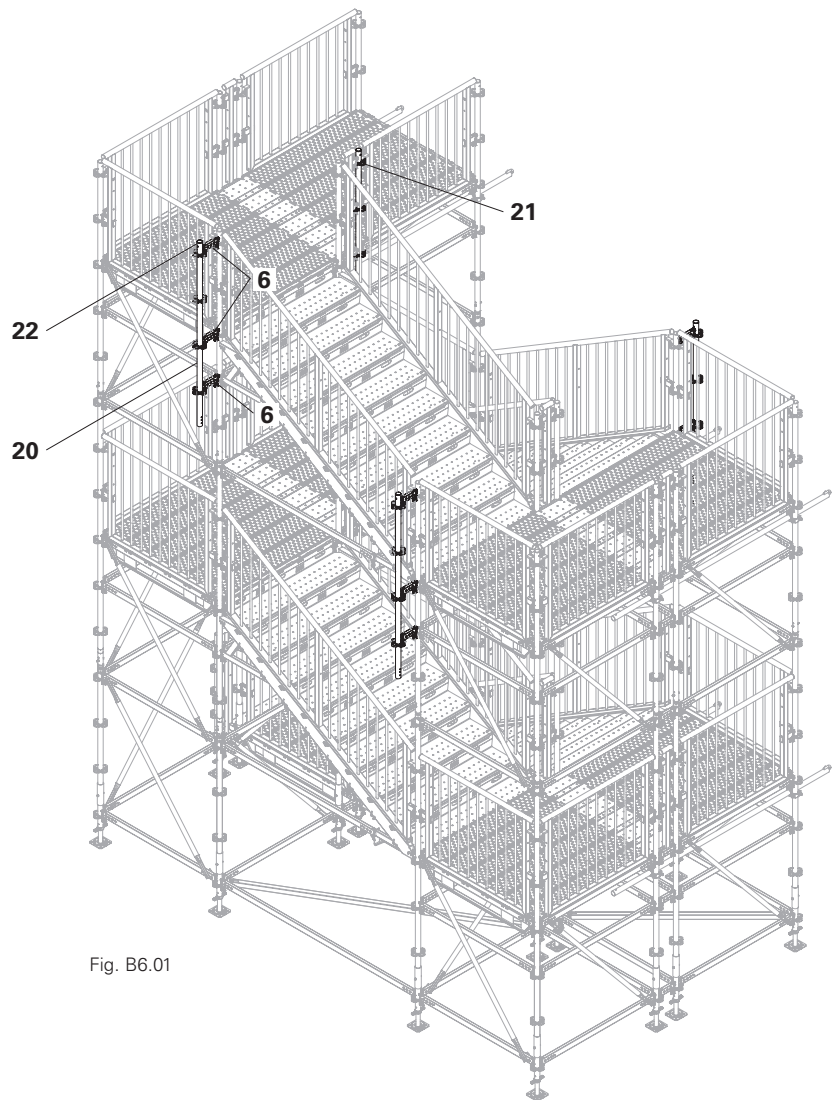

Fig. B6.01
3. Fit the plastic cap (**22**) onto the top standard. (Fig. B6.01)